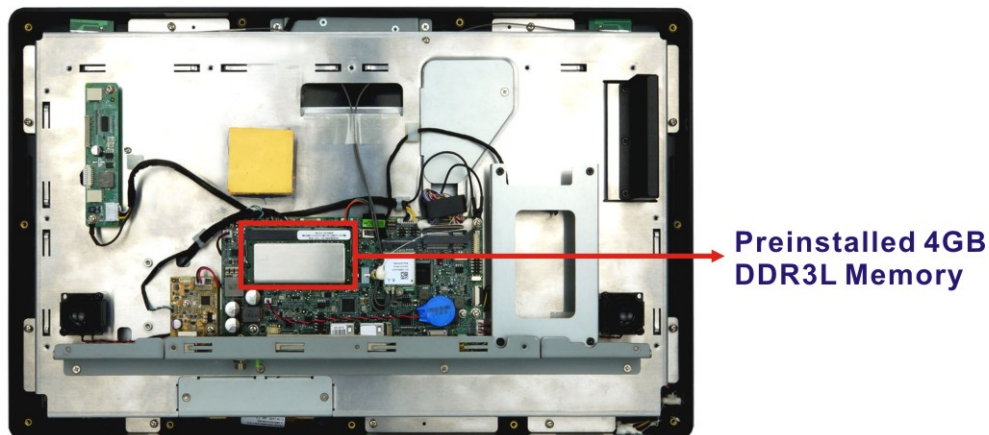

Figure 5-1: SO-DIMM module Location
Step 4: Locate the SO-DIMM module (Figure 5-1).